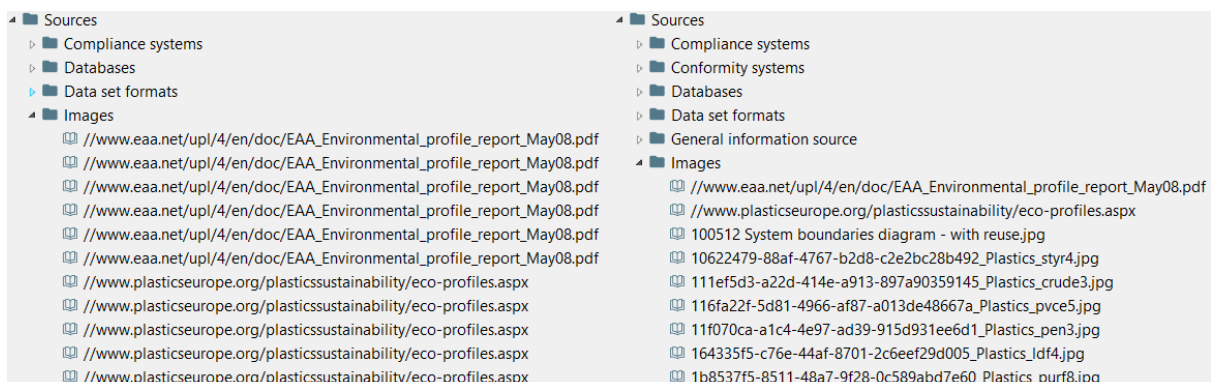

Figure 2. Multiple sources referring to the same content in GaBi original ILCD files (left) and after refactoring (right)
- Refactoring of sources to avoid multiple entries with the same content (Figure 2).